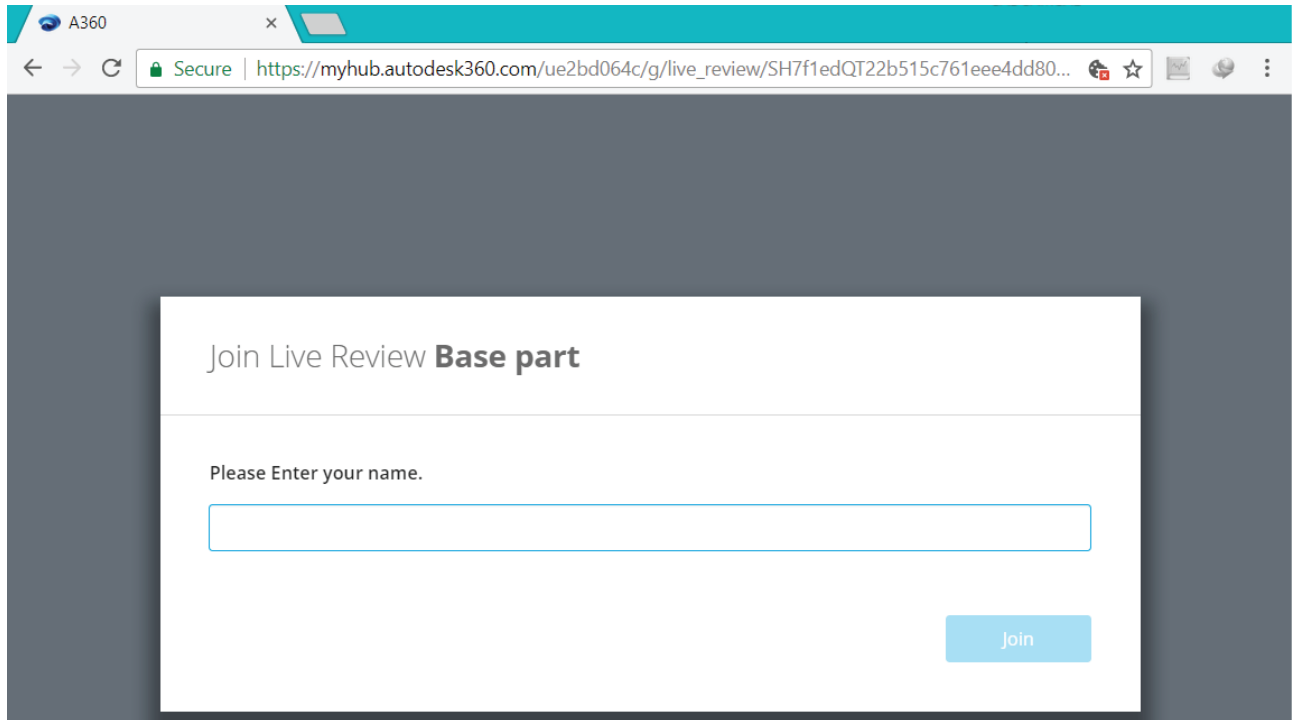
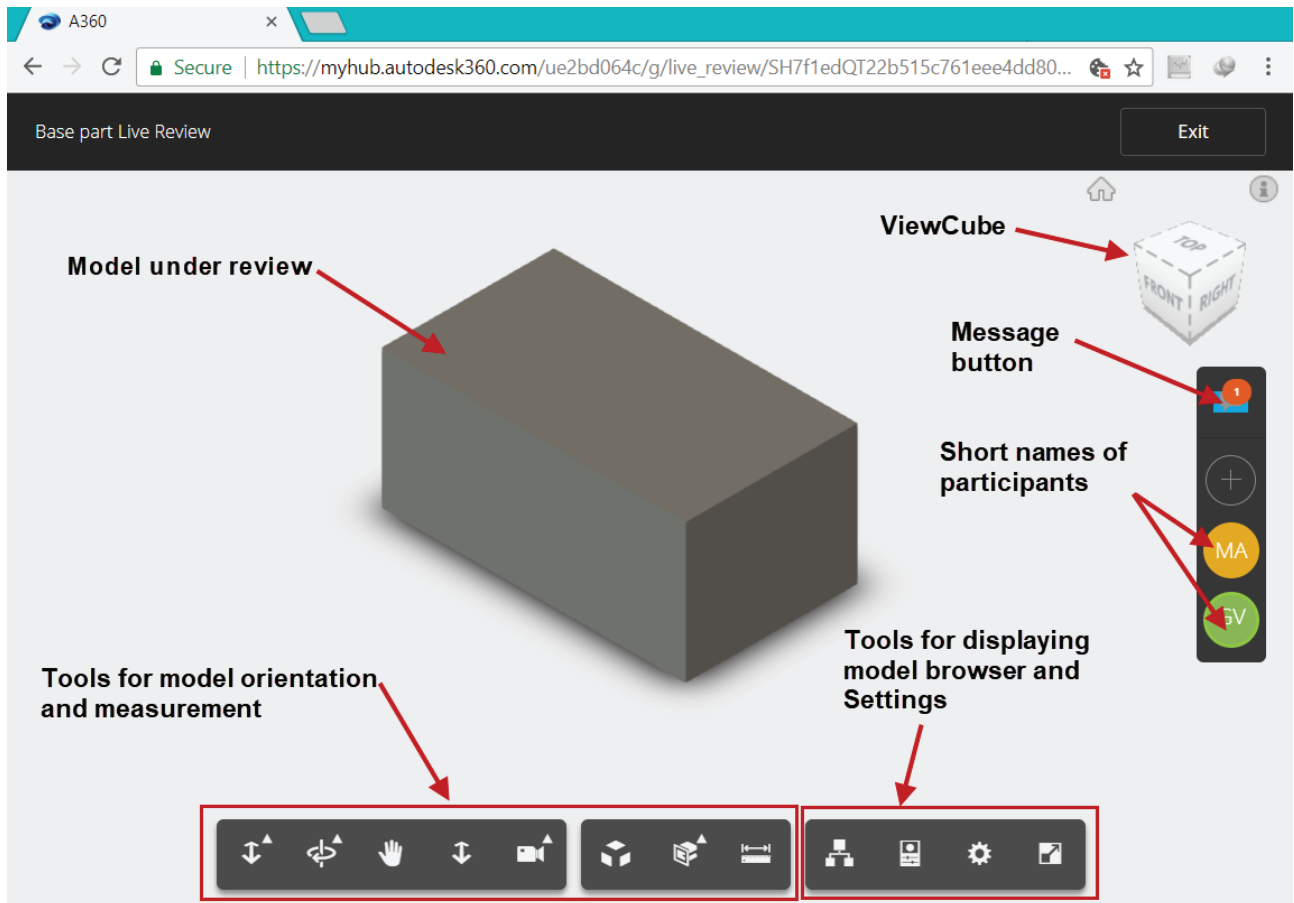

Figure-26. A360 window displayed
Figure-27. Live Review window
- On opening the link in web browser, your participants will see the A360 window as shown in Figure-26. Participant need to specify his/her name and click on the **Join** button. On doing so, the **Live Review** window of part will be displayed; refer to Figure-27.